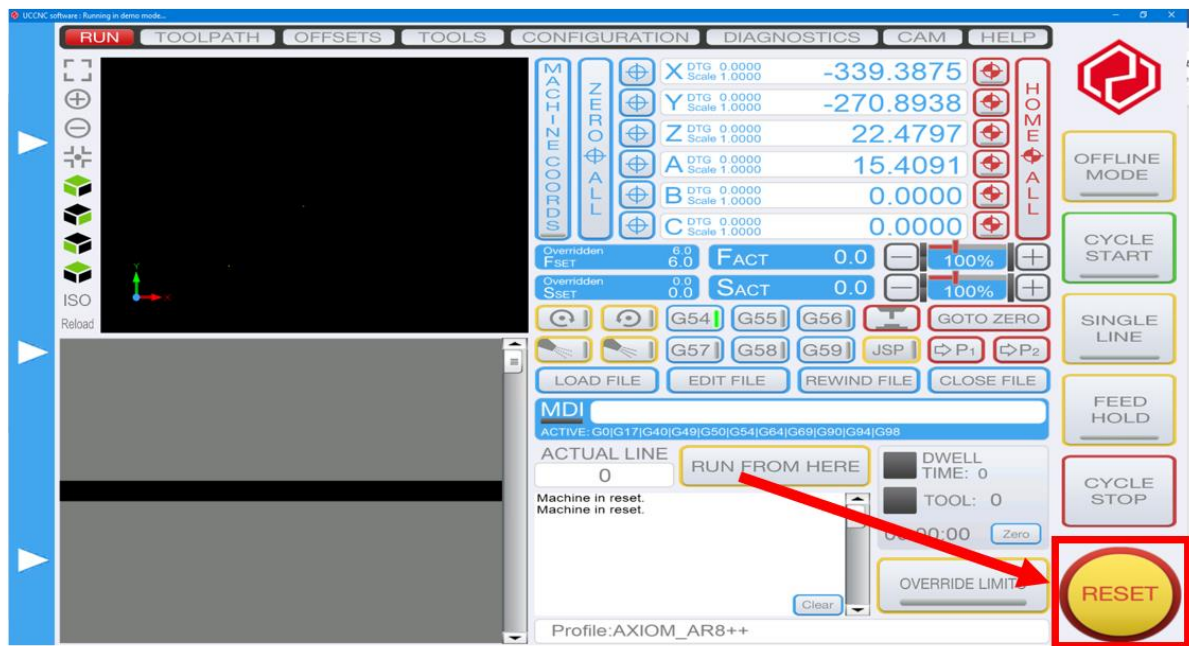

Figure 31: Reset button on UCCNC front panel
- Hit the reset button (it should be flashing yellow and red and is shown in Figure 31). Once clicked it should remain solid red in colour. You should now be able to control the machine with your UCCNC software